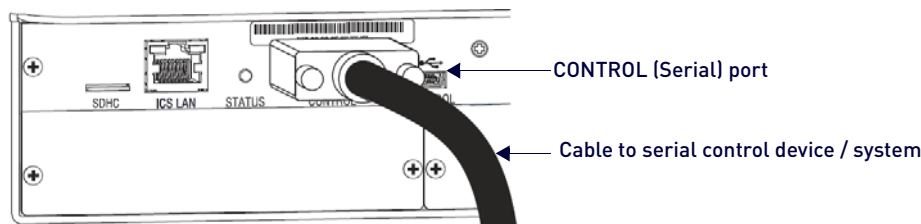

FIG. 177 RS-232 null modem cable pin diagram, no hardware flow control
1. Plug one end of the null modem serial cable into the Control port on the enclosure (FIG. 177):